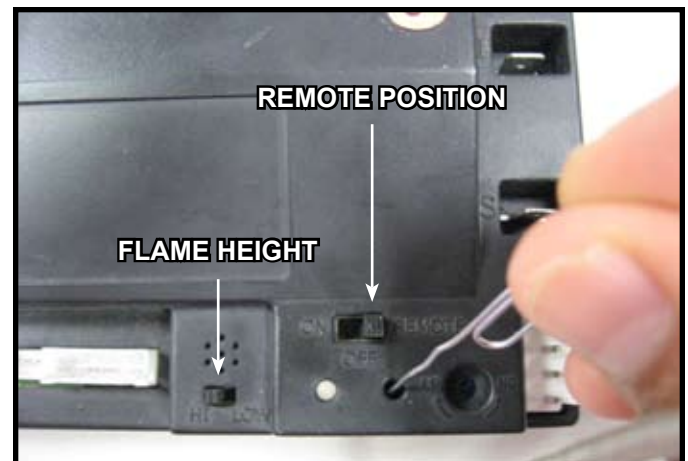

Figure 5. Programming RC100
- Verify the ON/OFF/REMOTE switch is in the REMOTE position. Green LED light will blink twice and wall switch will beep twice. See Figure 5.
- Using a small item (such as a paper clip) press and release the learn button located near the ON/OFF/REMOTE switch. See Figure 5.
The flame height can be adjusted by sliding the HI/LOW switch to the desired setting. See Figure 5. If the HI/LOW switch is in the LOW position the burner flame will adjust to LOW ten seconds after ignition.